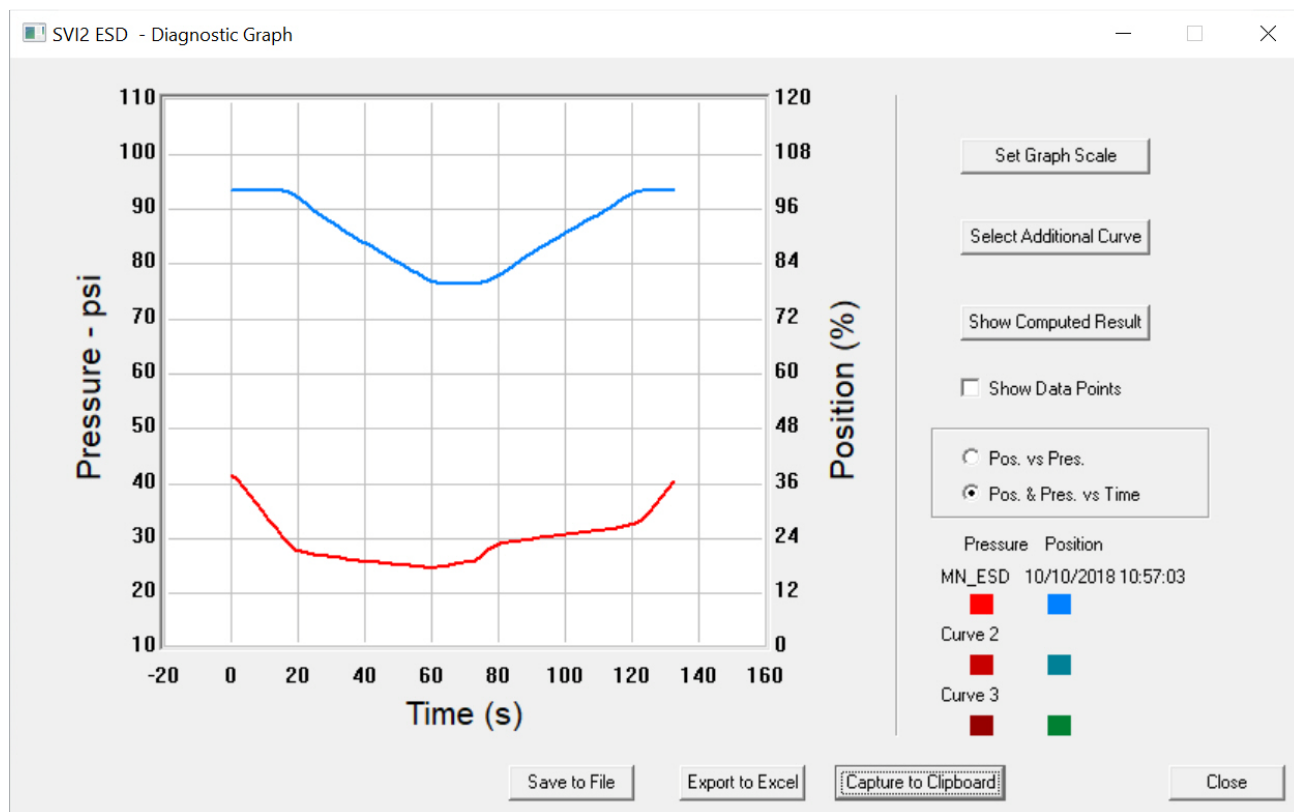

Figure 272 - Position and Pressure vs. Time View
- *Pos. & Pres. vs Time* - *Position and Pressure vs. Time*, an additional view displayed above the *Position vs Pressure* view, that displays the ramp down and up of the PST, and is represented by the blue curve as shown in *Figure 272*.
- Click the **Pos. & Pres. vs Time** radio button beside (Figure 272).